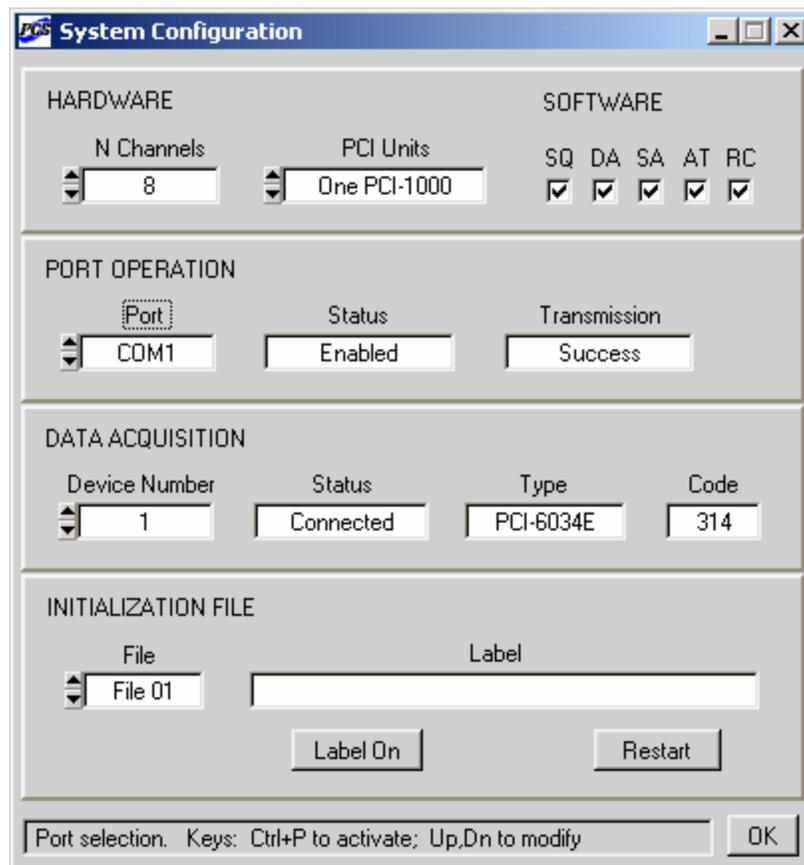

Figure 2-1. System Configuration panel of the PCS100 Control Software with all optional software modules included.
3. After the information panel disappears, the main panel of the SQUID Control Module with control, tuning, and configuration sections will be displayed. From the main menu, select SYST>Show System panel (or use the hot-key Y). The System Configuration panel will be displayed next to the main panel. The System Configuration panel is shown in Figure 2-1.